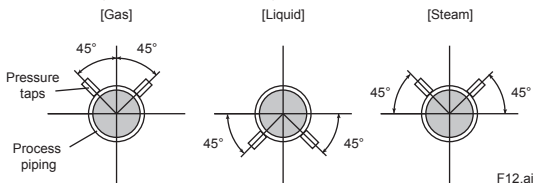

Figure 5-1 Process Pressure Tap Angle (For Horizontal Piping)
If condensate, gas, sediment or other extraneous material in the process piping gets into the impulse piping, pressure measurement errors may result. To prevent such problems, the process pressure taps must be angled as shown in figure 5-1 according to the kind of fluid being measured.
- Figure 5-1 Removal Angle of Process Pressure